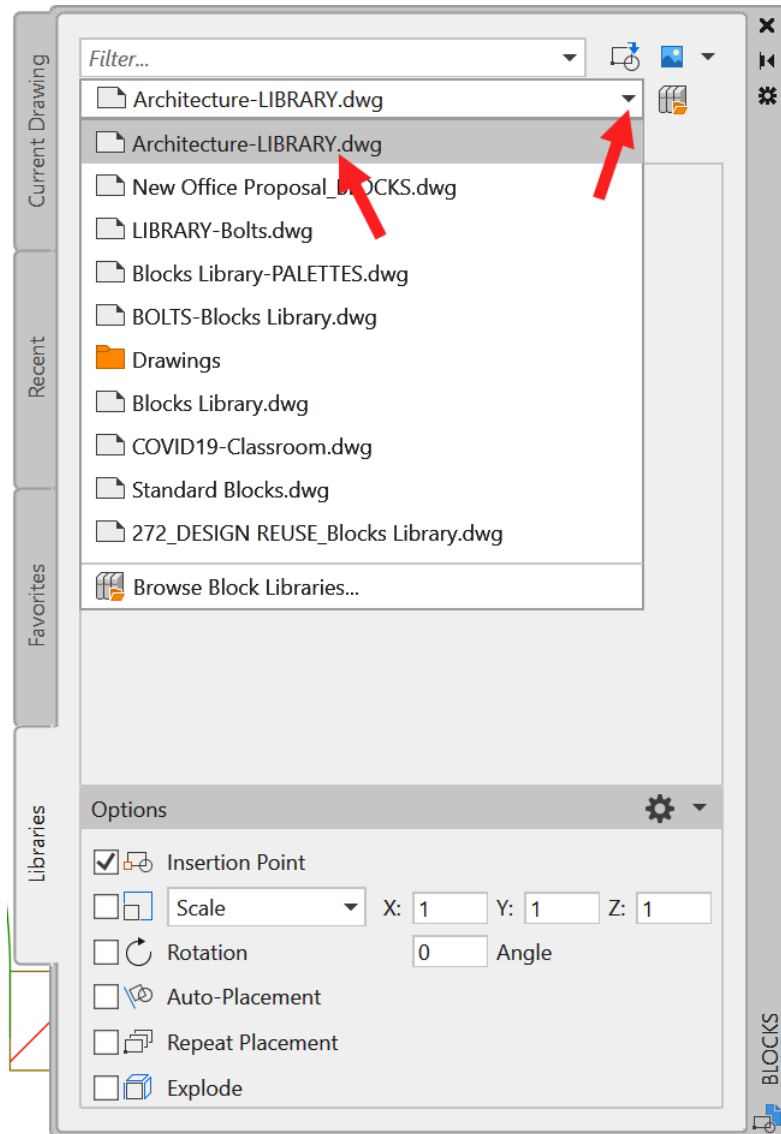

Figure 9.24: The Libraries tab showing the drop-down menu and the library drawing
8. As you build up your block libraries, you can locate them using the dropdown in the **Libraries** tab in the **Blocks** palette, as shown in *Figure 9.24*.